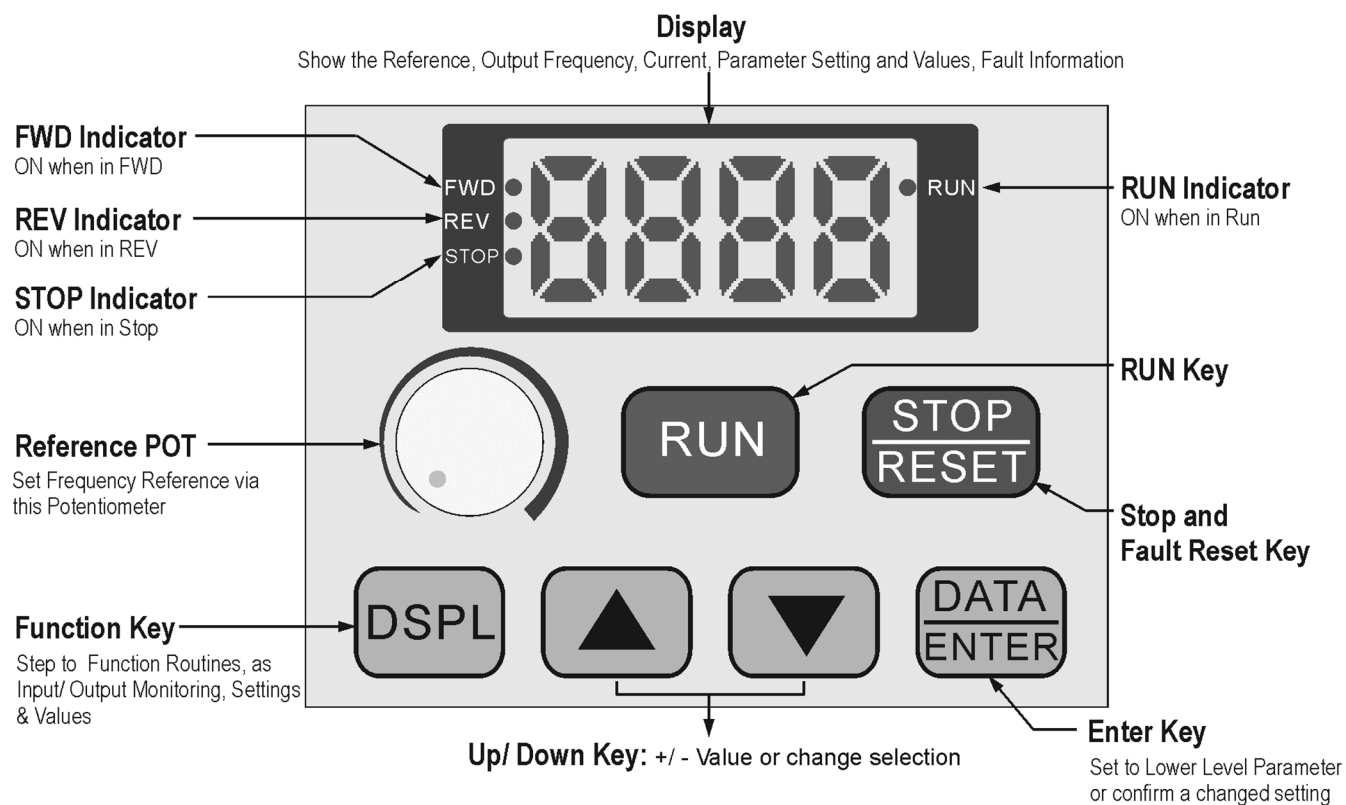

Fig. 3.1 Local Operator
1. **Local Operator (LOP)**: located in the center of F8, it consists the LED indicators, display area and function keys. Please see following *Figure 3.1*.